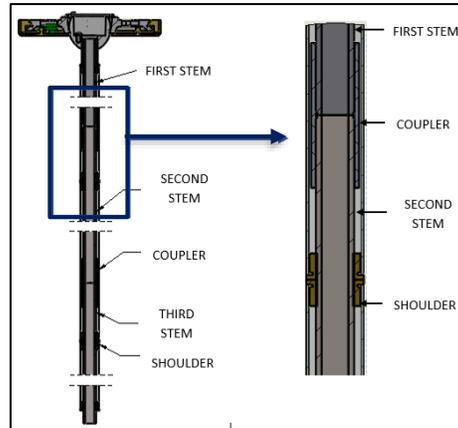

FIG. 14 – DETAIL SHOWING STEM INSTALLATION
4. Attach the STEMS based upon the length required using COUPLER and SHOULDER as shown in FIG. 14. Use thread locker on all stem connections and fully tighten stem sections together.